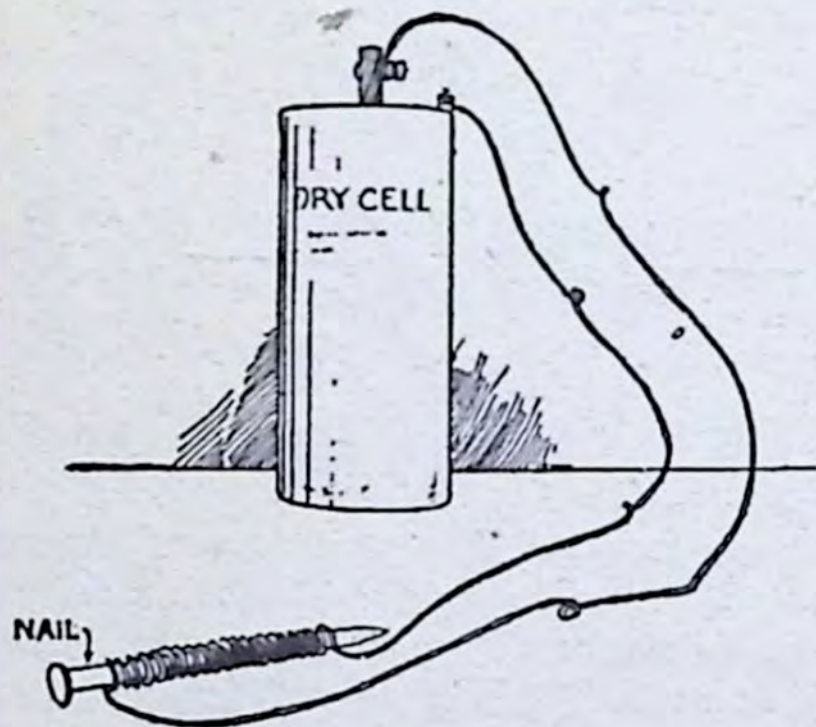

Fig. 3
(3) HOW TO MAKE A MAGNET OUT OF AN IRON NAIL: Wind a couple of layers of cotton-covered magnet wire on a nail and connect the ends of the wire with the binding posts of a dry cell as shown in Fig. 3. You will now find that the piece of iron has become a magnet. The instant, however, that you break the circuit it loses its magnetism. As the magnet is made by an electric current, it is called an electromagnet, and the field magnet of a motor as well as the armature works on this principle.
(4) A ONE MOSQUITO-POWER ELECTRIC MOTOR: Lay the electromagnet described in the above experiment close to your compass